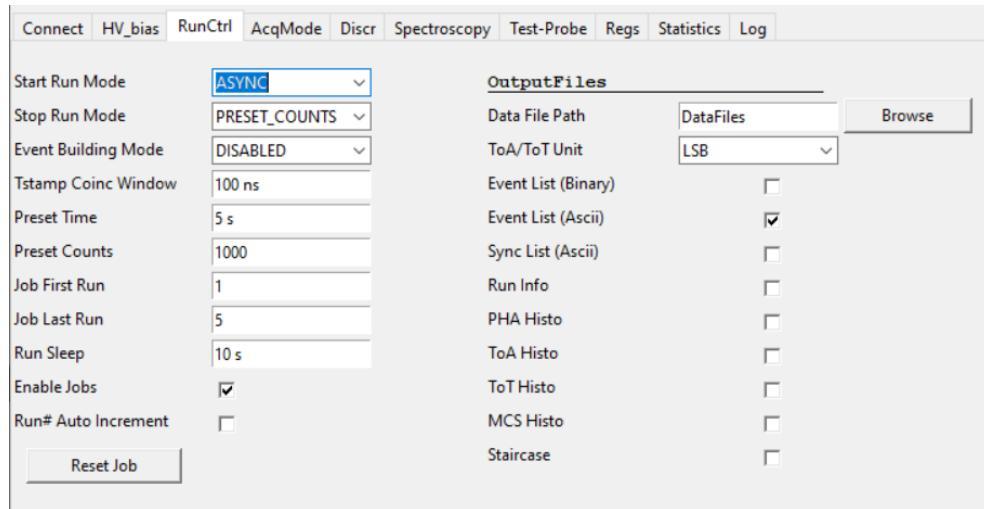

Fig. 3.52: Example of settings for a job acquisition.
9. In **Fig. 3.52** the settings chosen to perform a job acquisition are presented.